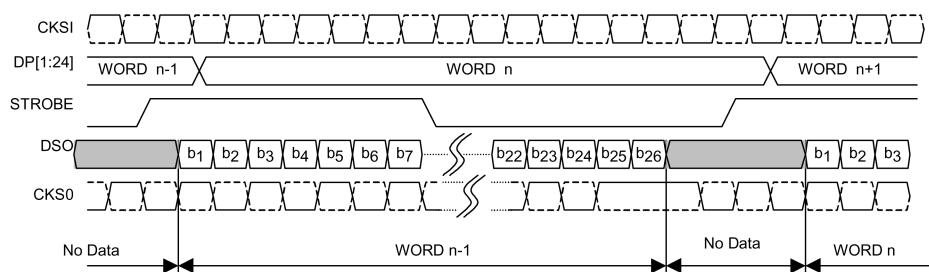

FIGURE 3. Serializer Timing Diagram Using Provided Bit Clock (No CKREF)
**Serializer Operation: (Figure 3)****DIRI equals 1****No CKREF**